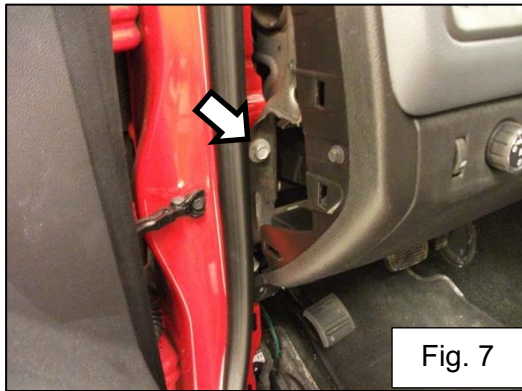

Fig. 7
13. Ground the subwoofer harness to the bolt securing the left side of the dash. Fig. 7 Tighten to 19Nm (14ft-lb)